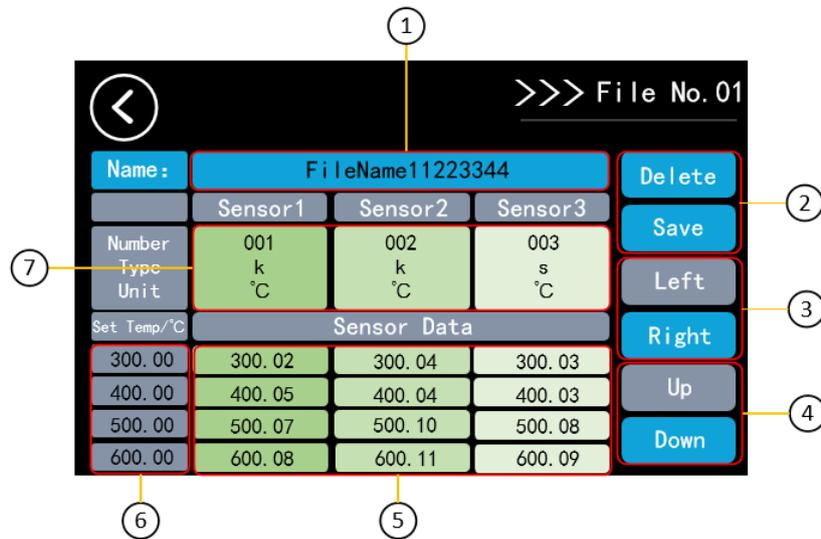

Fig 4.11 Files Record Interface
**File recording:** Provides users with the function of manually recording and saving data, as shown in Figure 4.11.